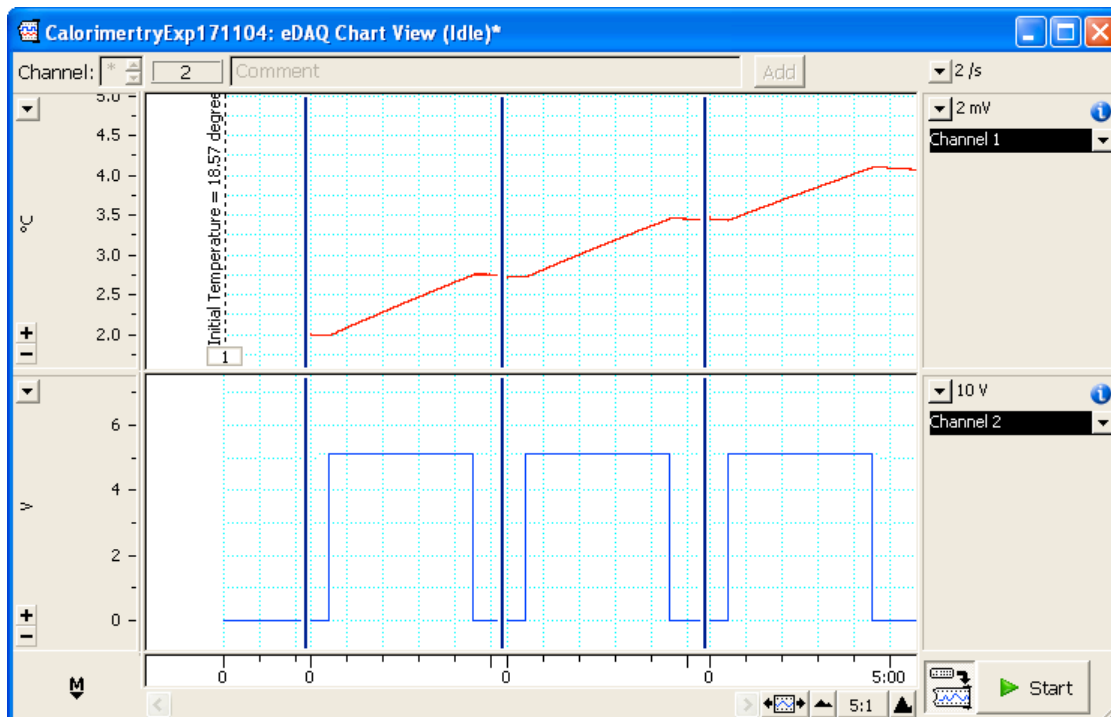

Figure 6.4 Typical data obtained after running the Calibration macro three times
- 6.3.2** Run the Calibration macro an additional 2 times. The data collected should look similar to **Figure 6.4**.